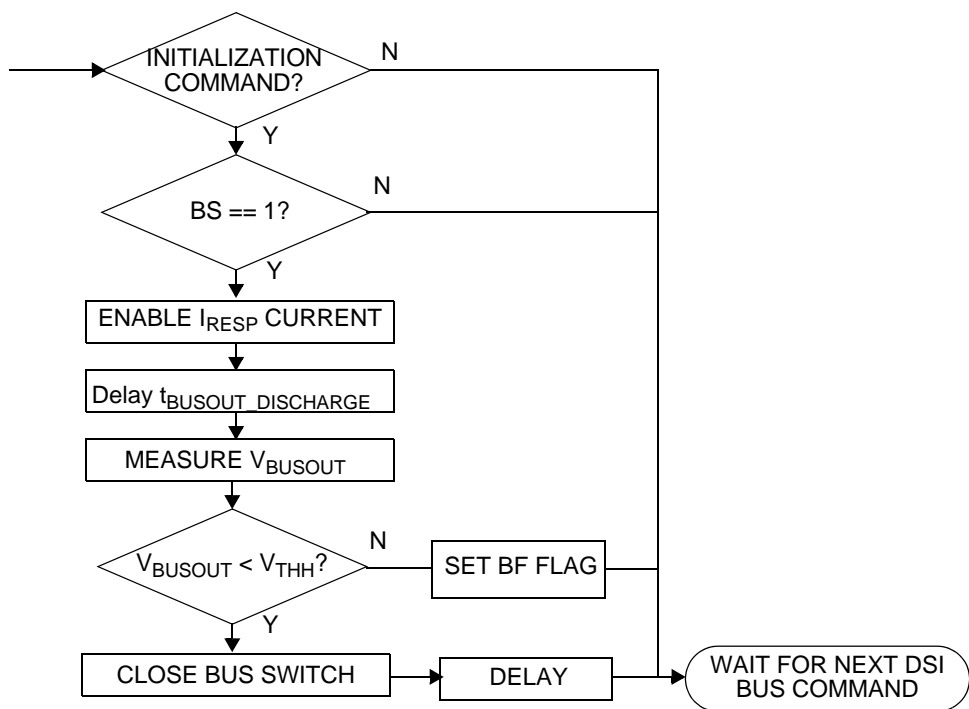

Figure 22. Initialization Sequence
**Figure 22** illustrates the sequence of operations performed following negation of internal power-on reset (POR) and execution of a DSI Initialization command. The BUSOUT node is tested for a bus short to high voltage condition, and the bus fault (BF) flag is set if an error condition is detected. If no bus fault condition is detected and the BS bit is set in the Initialization command message, the bus switch will be closed. The device implements a blanking time ( $t_{DSI\_BLANK\_INIT}$ ) to allow for the bus voltage to recover following closure of the bus switch.